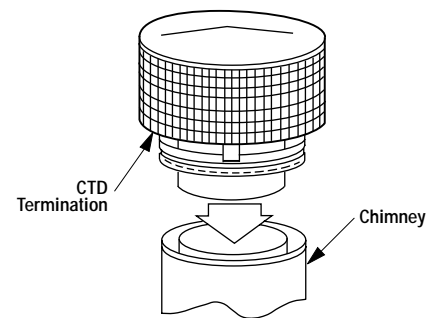

Figure 34
1. Hold the FTF8-CTD over top of last chimney section (**Figure 34**).